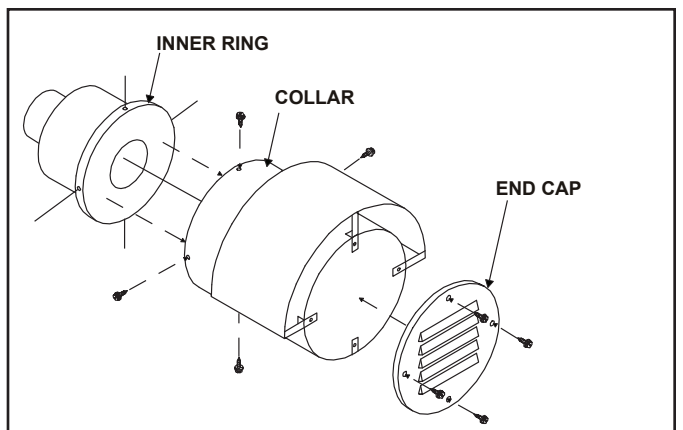

Figure 7.45
C. Fasten the wire mesh to the 10-1/2" collar to cover the exhaust port hole, using (4) sheetmetal screws.
D. Slide the inner ring inside the cap assembly, carefully positioning the inner ring to its original orientation. See Figure 7.45. Carefully align the screw holes on the 10-1/2" diameter collar and the inner ring.